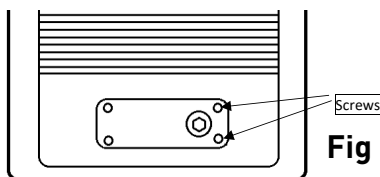

Fig 2
- Remove the four screws on the access plate at the rear of the fitting to expose the terminal block (see Fig 2)